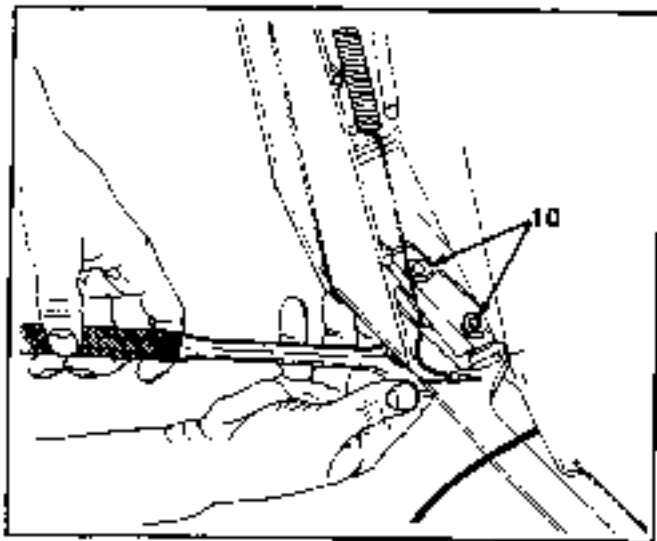

FIGURE 7.
9. Remove four hex bolts and lock washers securing the grille and hood to front chassis. See figure 7. Use a $\frac{1}{2}$ " socket wrench, going up through the access holes in the chassis.